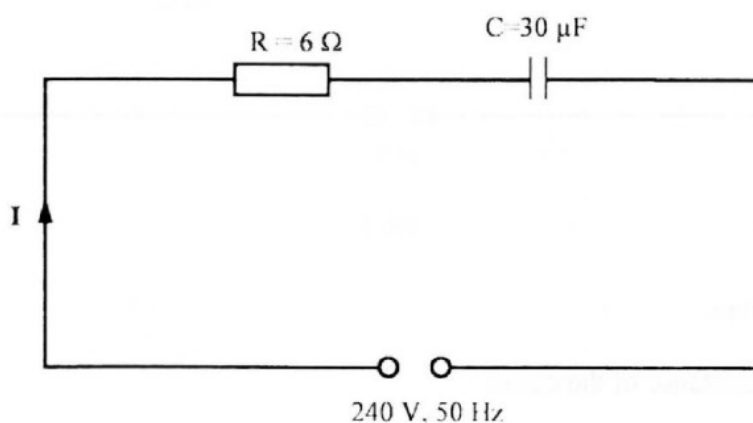

Fig. 3
- 11 (a) **Figure 3** shows an R - C circuit.